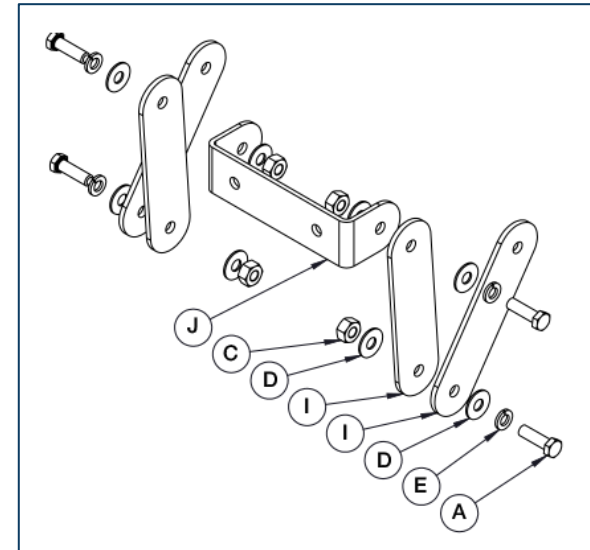

Figure 6: X7C/C7C middle bracket
5. In its place, for center mounting, use center link brackets I. Assemble using the following 3/8" hardware: A, C, D, and E. See *Figure 6*.